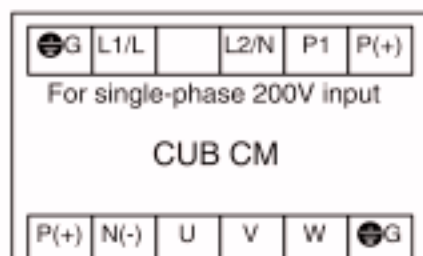

Figure 2-3-1 Arrangement of main circuit and ground terminals
1. Always connect the power to the main power supply input terminal of the inverter. If it is connected to another terminal, the inverter will be damaged (see Figure 2-3-1).